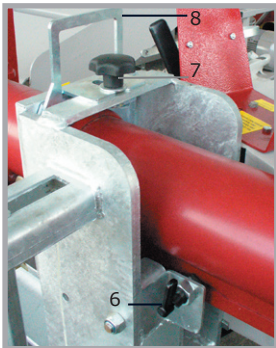

Fig. 4
- Release the locking bolt (6), release the star-knob (7) and remove the stop plate (8). (see Fig. 4)